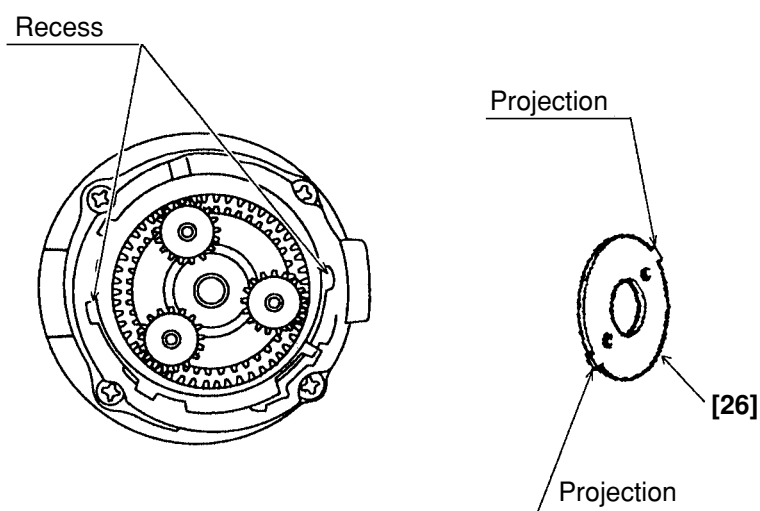

Fig. 11
- (ii) Install Washer (B) [26] in the Rear Case [17] with the projections of Washer (B) [26] engaged with the recesses in the Rear Case [17], and turn Washer (B) [26] clockwise until it can turn no further. (See Fig. 11.)